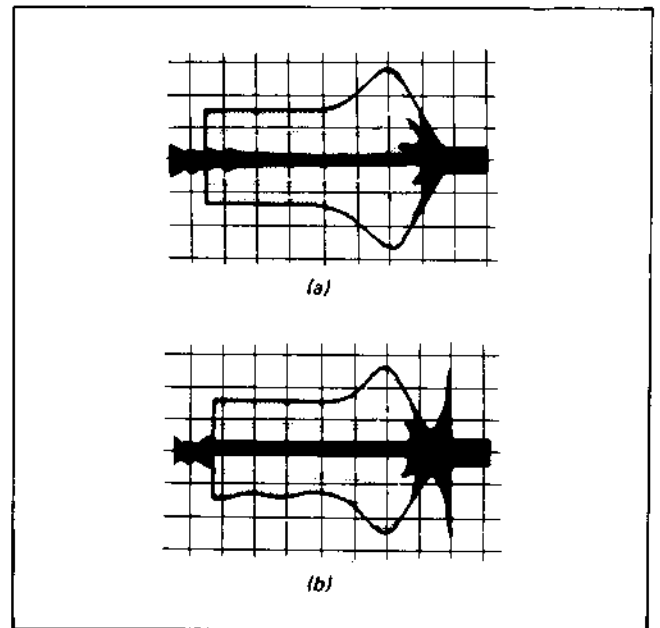
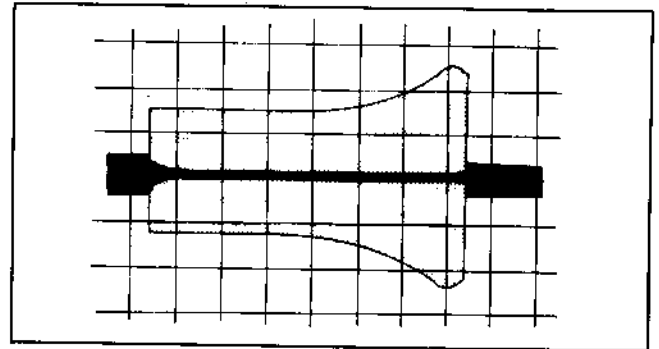
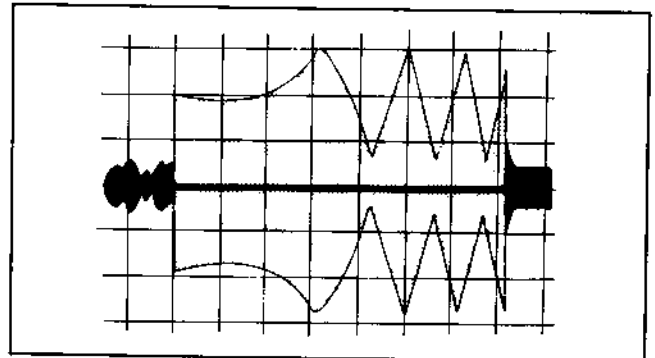

Fig. 4-7
Fig. 4-9
Fig. 4-10
- i) If the exit free waveform is within the range illustrated in Fig. 4-7 (a), (b), proceed with exit side adjustment.
- i) If the waveform is within the range illustrated in Fig. 4-7 (a), (b), proceed with the adjustment.
- ii) If the exit free waveform appears as shown in Fig. 4-9, turn the ACE lateral adjustment screw clockwise until the waveform is within the range illustrated in Fig. 4-7 (a), (b).
- iii) If the exit free waveform appears as shown in Fig. 4-10, turn the ACE lateral adjustment screw counterclockwise to obtain the waveform shown in Fig. 4-9, then turn clockwise again until the waveform is within the range shown in Fig. 4-7.
- 5) If the RF output waveform is as shown if Fig. 4-9, where the exit side is not flat, lower no. 7, no. 8 guides again to flatten it.